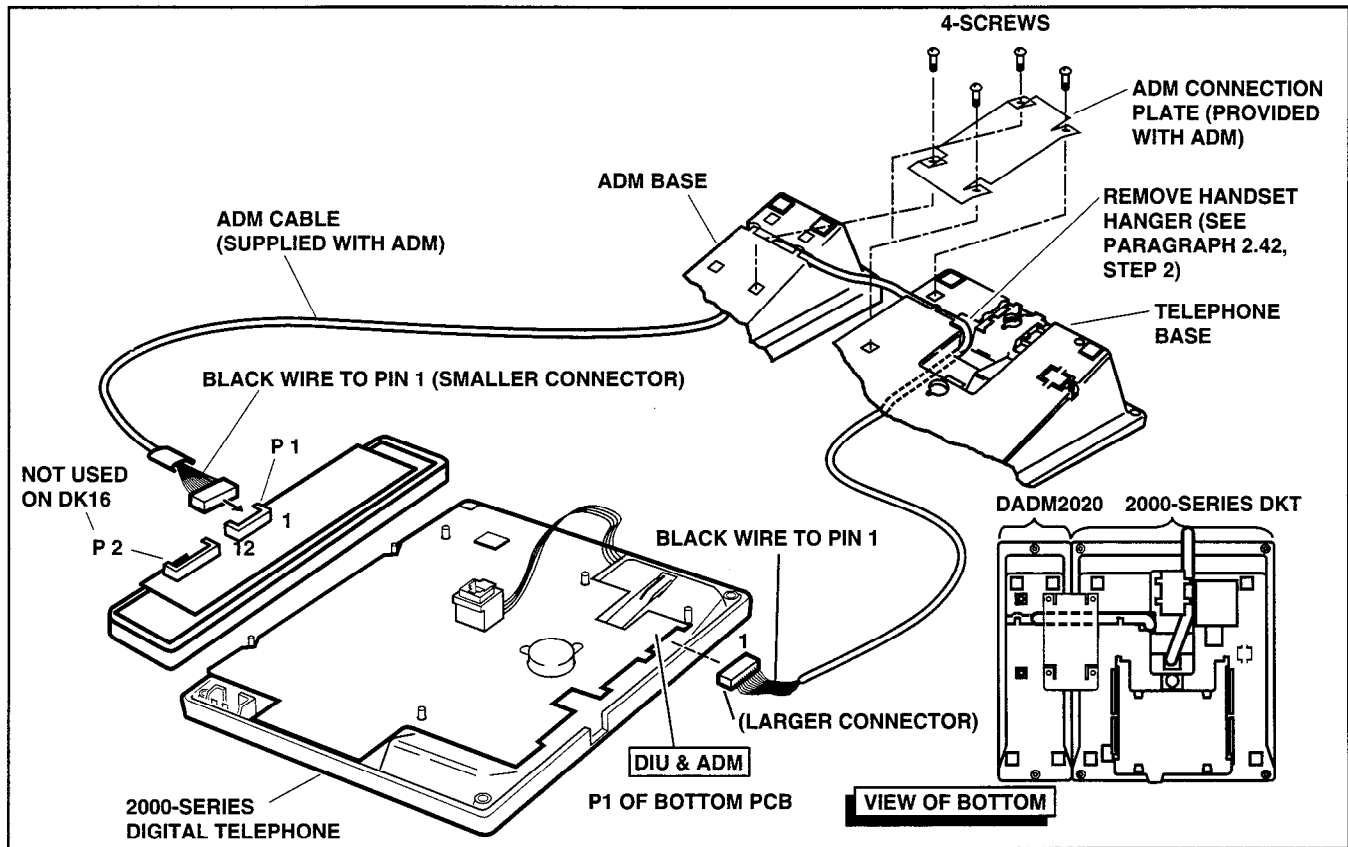

FIGURE 6-18
- 4) Put on ADM cable (supplied with ADM) through telephone base and ADM base as shown in Figure 6-18.
- 5) Connect ADM cable connectors to P1 of ADM and P1 of DKT2000 telephone as shown in Figure 6-18.